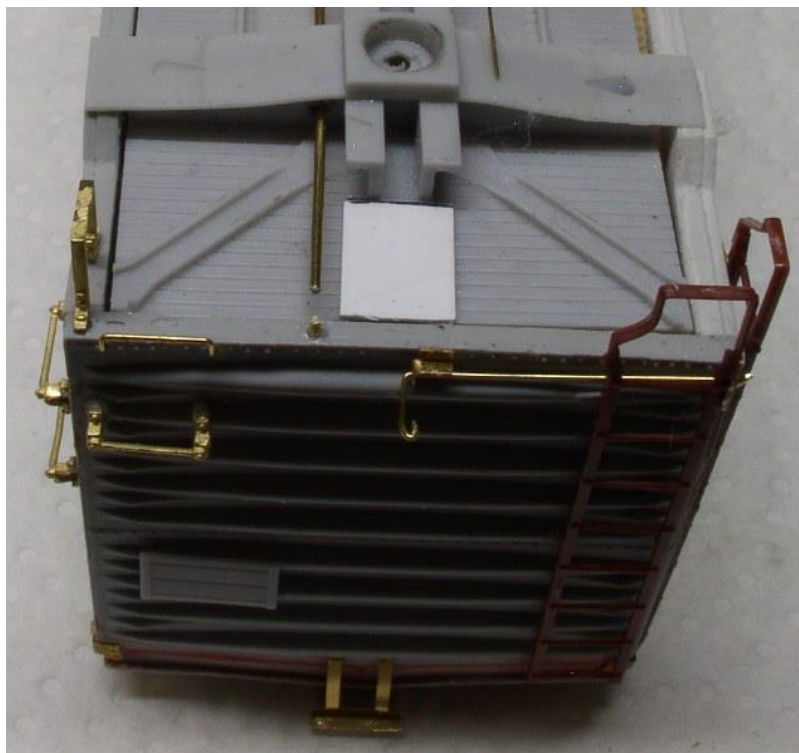

Figure U28
3. Drill a 0.032" hole just in front of the brake line and cut back the brake line so that it just touches the inside edge of the end. Cut a short piece of 0.032" rod and glue in the hole. This will serve as a post for the Glad Hand/Glad Hand Bracket. See Figure U28.